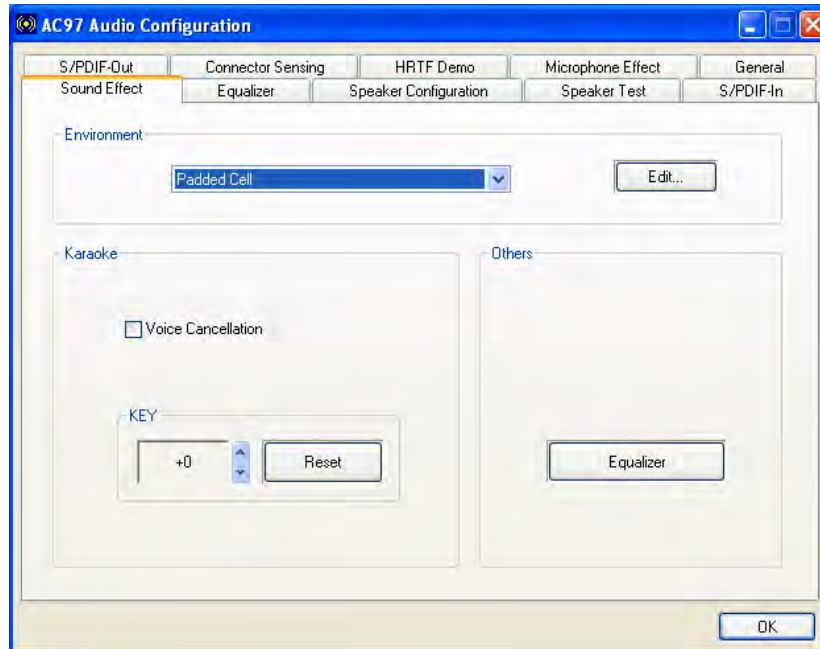

Figure C-4: Sound Effects Manager (ALC655)
Step 3: The sound effect manager appears. (See **Figure C-4**)
The Sound Effect Manager shown in **Figure C-4** is for the RealTek ALC655 audio CODEC. Different CODECs may have different sound manager appearances.